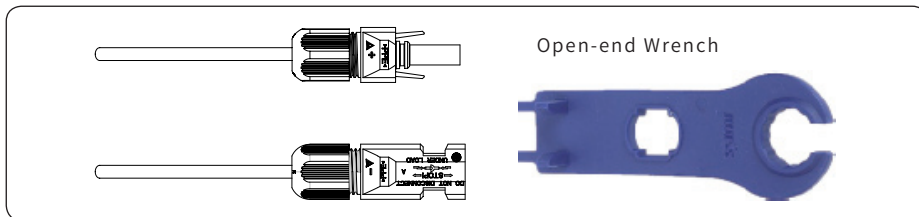

Figure 4-11
6) Screw the nut to the end with some power and ensure the terminal is well sealed, as shown in Figure 4-11: